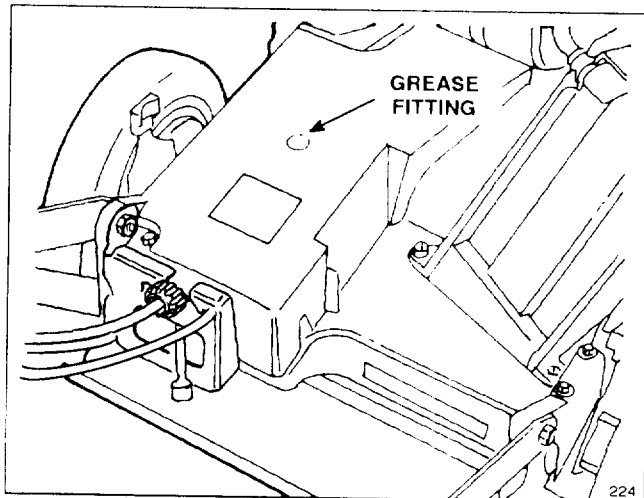

Figure 28
2. Install grease gun onto fitting thru belt cover opening (Fig. 28). Gently apply 1–2 pumps of grease.